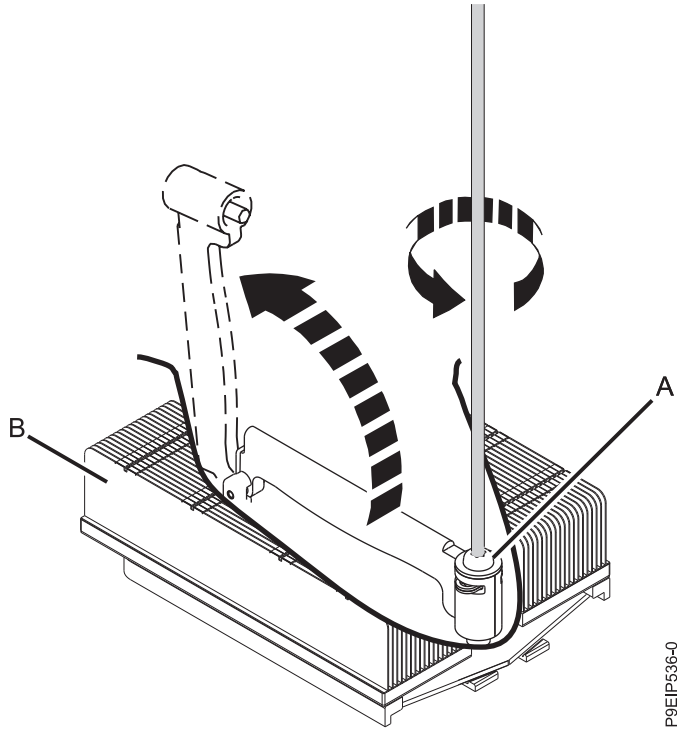

Figure 65. Loosening heat sink load arm screw
4. Loosen the load arm screw **(A)** of the system processor heat sink **(B)** that you are removing with a #3 Phillips screw driver. The load arm pivots up in the direction that is shown in Figure 65 on page 57.